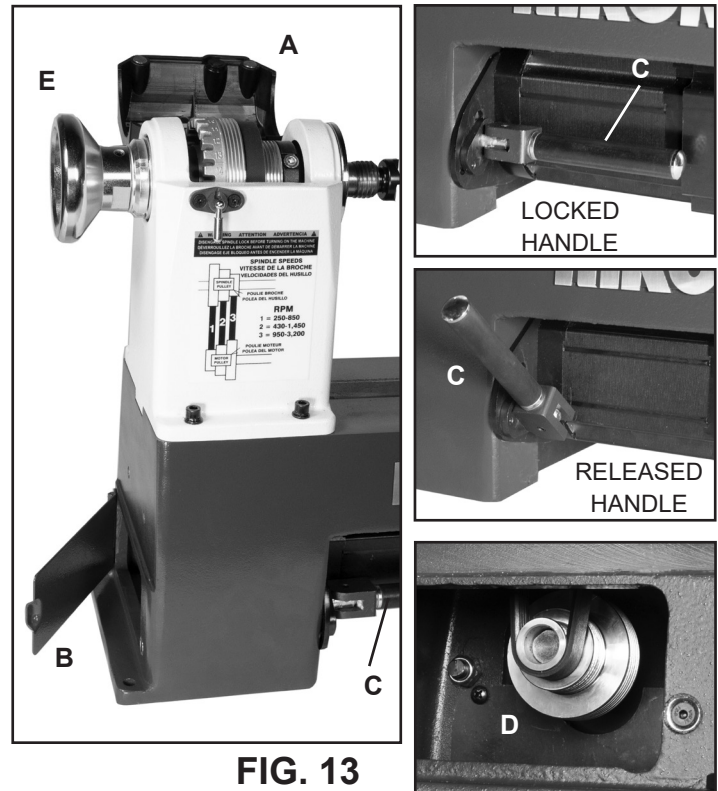

FIG. 13
2. Open the top Headstock Cover (#14BA, FIG. 13, A) and the left side, Bed Cover Plate Door (#4A, B) to gain access to the belt and pulleys that are inside of the headstock.
- Pull the handle forward to unlock. FIG. 13, C.
4. Remove the Belt (#38B) from the lower Motor Pulley (#24A; FIG. 13, D). **NOTE:** If the belt is not to be saved, the old belt can be cut off at this time.
5. To remove the Handwheel (#1B, FIG. 13, E), loosen the two (2) Set Screws (#2B). Then use the 38mm Wrench on the flat portion of the spindle, and loosen the faceplate from the spindle by hand. Rotate the handwheel counter-clockwise to fully remove it from the spindle.